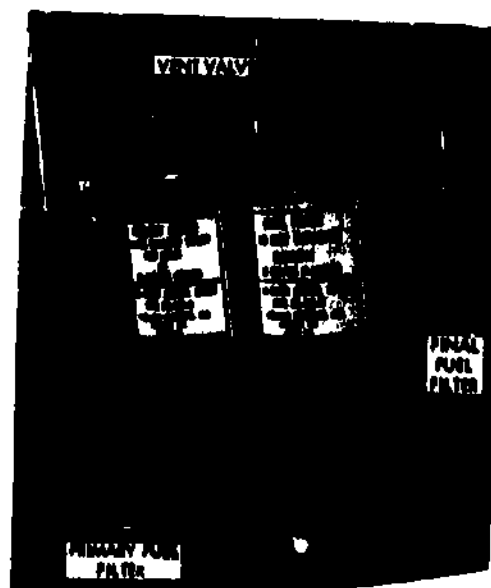

Fig 4-3. Secondary and final filters.
d. Secondary and final filters (fig 4-3). The secondary and final fuel filters are mounted on the left rear of the engine. Remember that the secondary filter is often referred to as the engine primary filter. If any dirt or water is found in the primary filter, drain the secondary filter. If any is found in the secondary filter, drain the final filter. When a large amount of dirt or water is found in the filters, especially the final filter, clean the primary filter and replace the secondary and final fuel filter elements. The procedures for doing this are covered later.